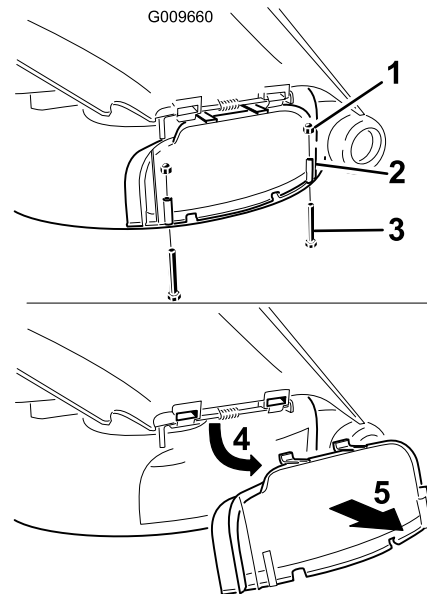

Figure 24
3. Remove the 2 bolts and nuts that secure the discharge cover to the mower (Figure 24).